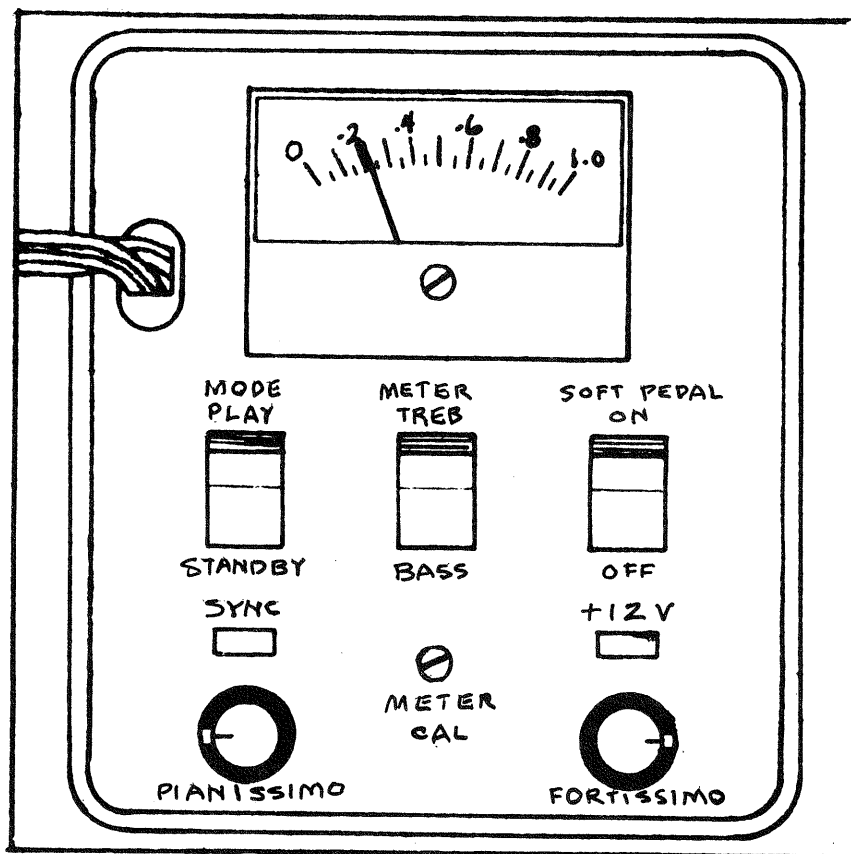

Figure A-3
3. TEST BOX - (Figure A-3) Use to service unit in record and playback modes.